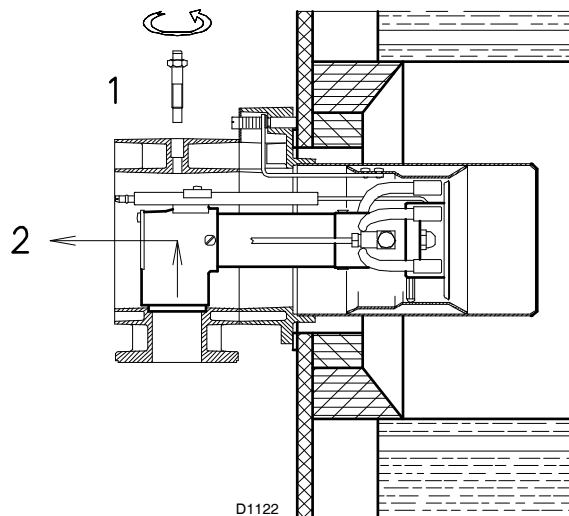

Fig. 12
- remove screw 1)(Fig. 12) and extract the nozzle assembly 2);